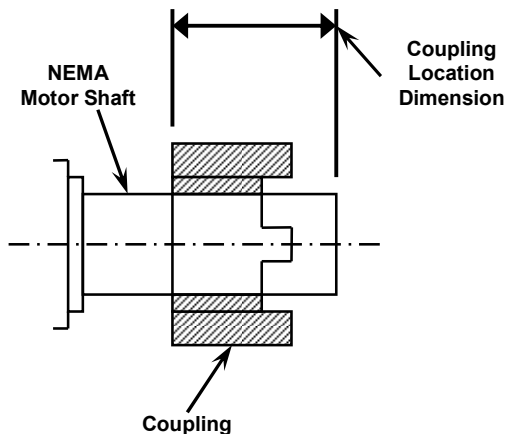

Figure 2-3: SEW Reducer/Motor Coupling Location
1. Place motor coupling and key in location on motor shaft as per Figure 2-3 and Table 2-1 below for all SEW Eurodrive brand reducers. Also, check the manufacturer's instructions in the **Accessory Equipment** section of this manual.